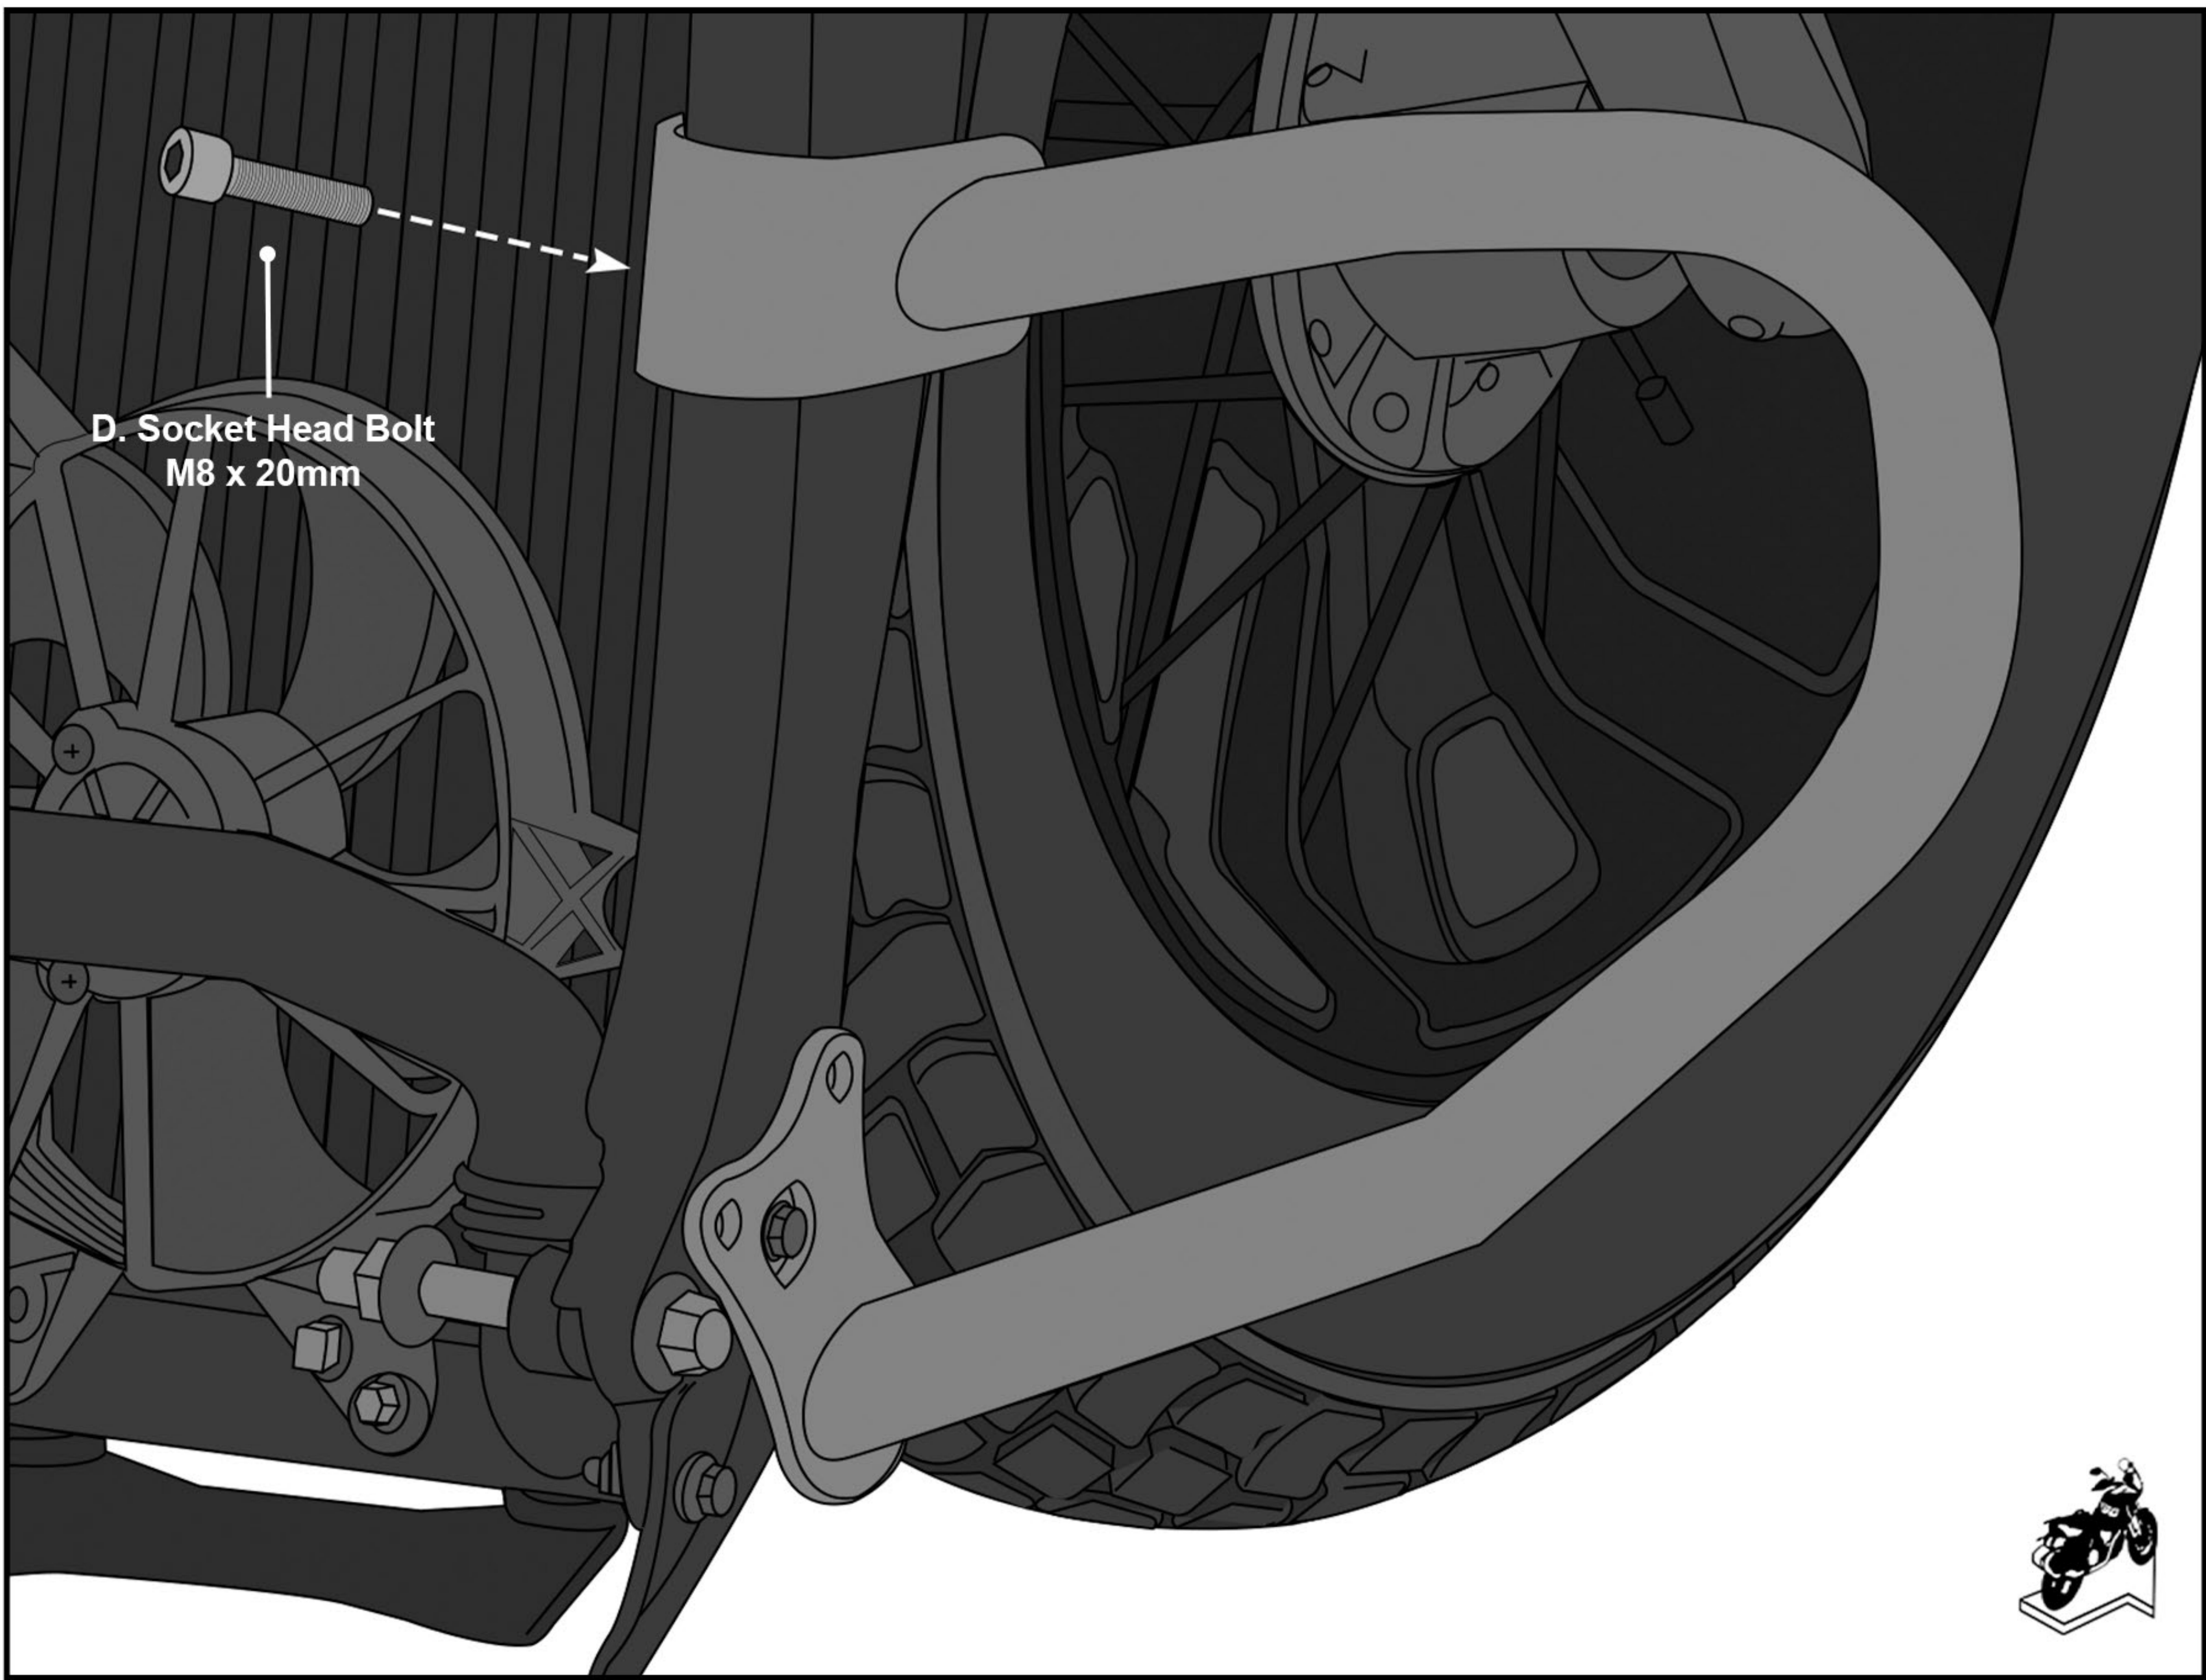

Fig 5. Installing the crash bar
Position the right crash bar to the motorcycle frame, and install the socket head bolt M8 x 20mm (D). See Fig 5.